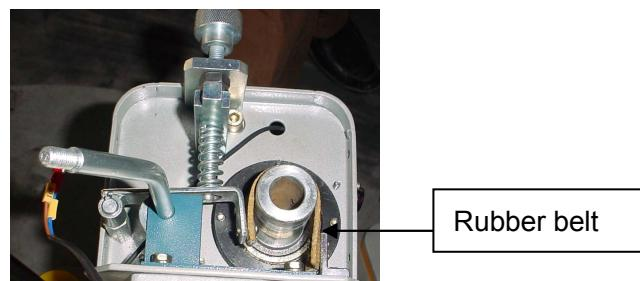

FIG 5-4
- 5-1-4** When the lifting unit of the machine is anti-stretch type, if the braking adjusting force goes down, check the triangle rubber belt abrasion is serious or not, if already badly worn, please replace it. (FIG 5-4) (maintenance once every half a month recommended)